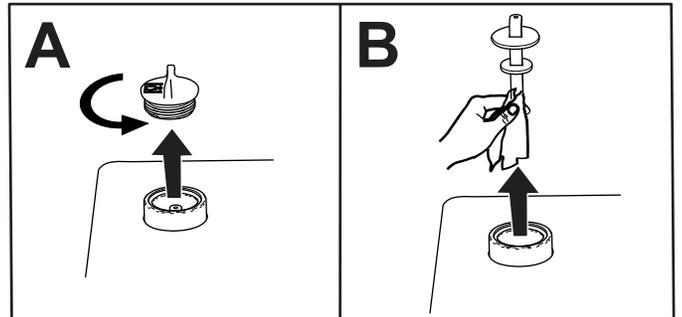

Figure 121
3. Remove the plug from the hydraulic tank (Figure 121).
4. Remove the dipstick from the hydraulic tank and wipe it with a clean cloth (Figure 121).